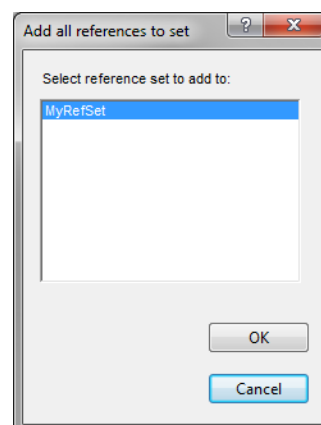

Figure 3.31: The *Add all references to set* dialog box to populate a reference set.
15.6 Make sure that reference signals are defined for this batch (blue bars), and if so, choose **Refset > Add all references to set** to call the *Add all references to set* dialog box (see Figure 3.31).